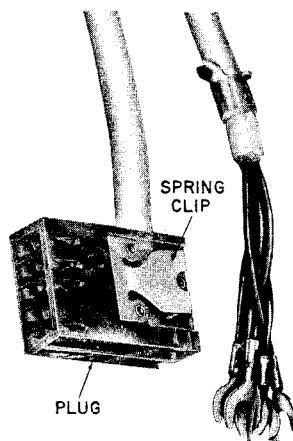

Fig. 10—D5AL Mounting Cord
(1) When installing an AD1 telephone base, terminate the line and transformer wiring at a common bridging point, such as a 42A connecting block (Fig. 5). Connect the spade-tipped leads of a D5AL (Fig. 10) or D5AN mounting cord at the bridging point, as shown in Section 502-321-400.